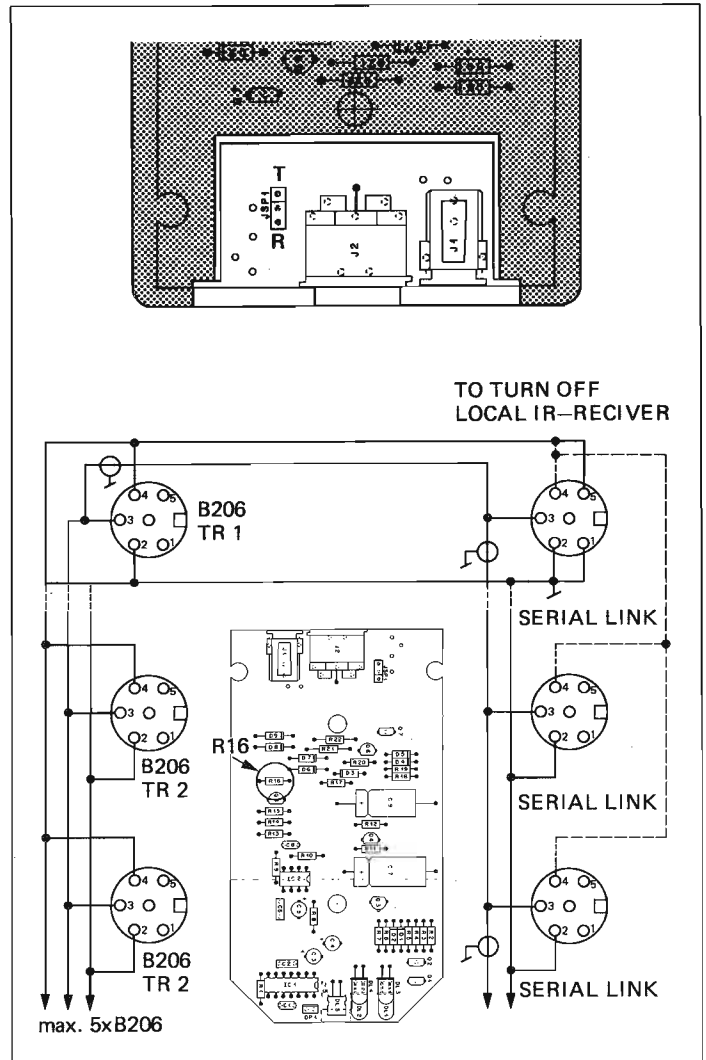

Fig.4.1
2. Wire DIN connector for B206 Transceiver and the SERIAL LINK socket according to Fig. 4.1.
As can be seen from Fig. 4.1, several B206 Transceivers as well as several REVOX units can be connected in parallel with SERIAL LINK sockets. The installation must be executed very carefully and the connecting cables should be prepared by an experienced technician.
\* On all units with SERIAL LINK the internal IR receiver can be switched off. (In the connector link pin4 with pin5, as well as pin1 with pin 2. Caution in the case of parallel-connected units: see Fig. 4.1.)